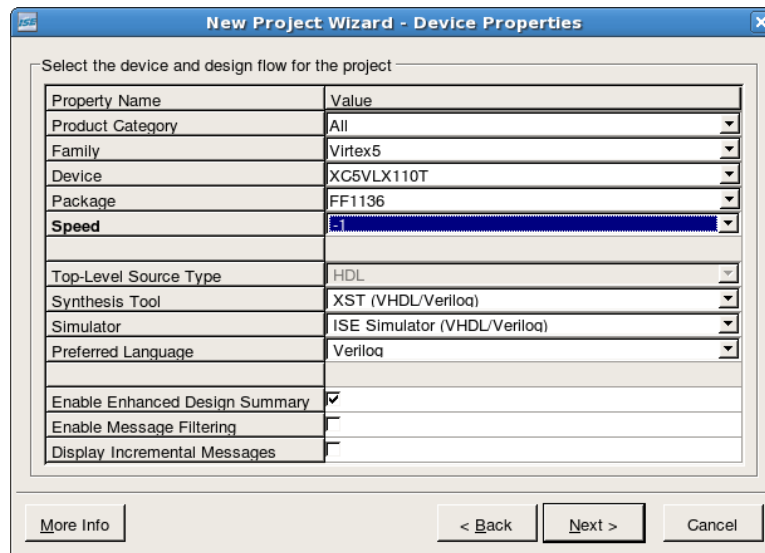

Figure 2: Device Properties
- (c) Next, the ‘Device Properties’ window appears (Figure 2).